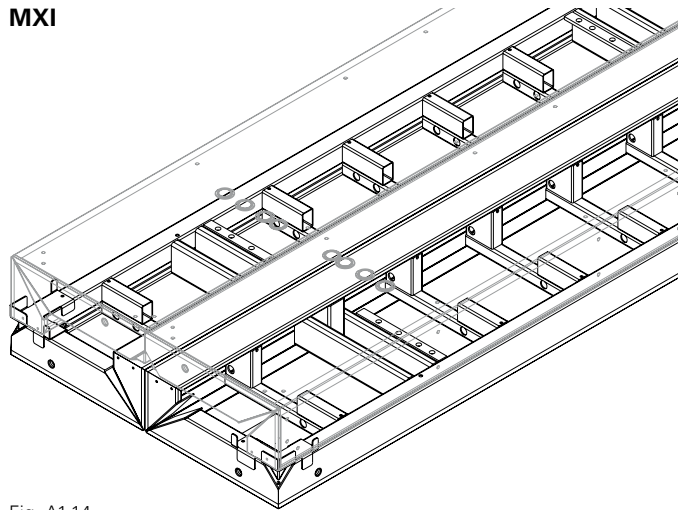

Fig. A1.14
- four shaft corners. Install Stacking Aids (3 + 4) only on the corners. (Fig. A1.14)